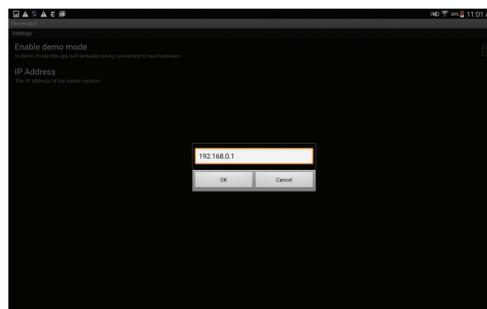

Figure 17: ThermaSol App IP address setting
3. In the settings menu, select the “IP Address” tab and enter “192.168.0.1” in the address field and select “OK” as shown below in Figure 17